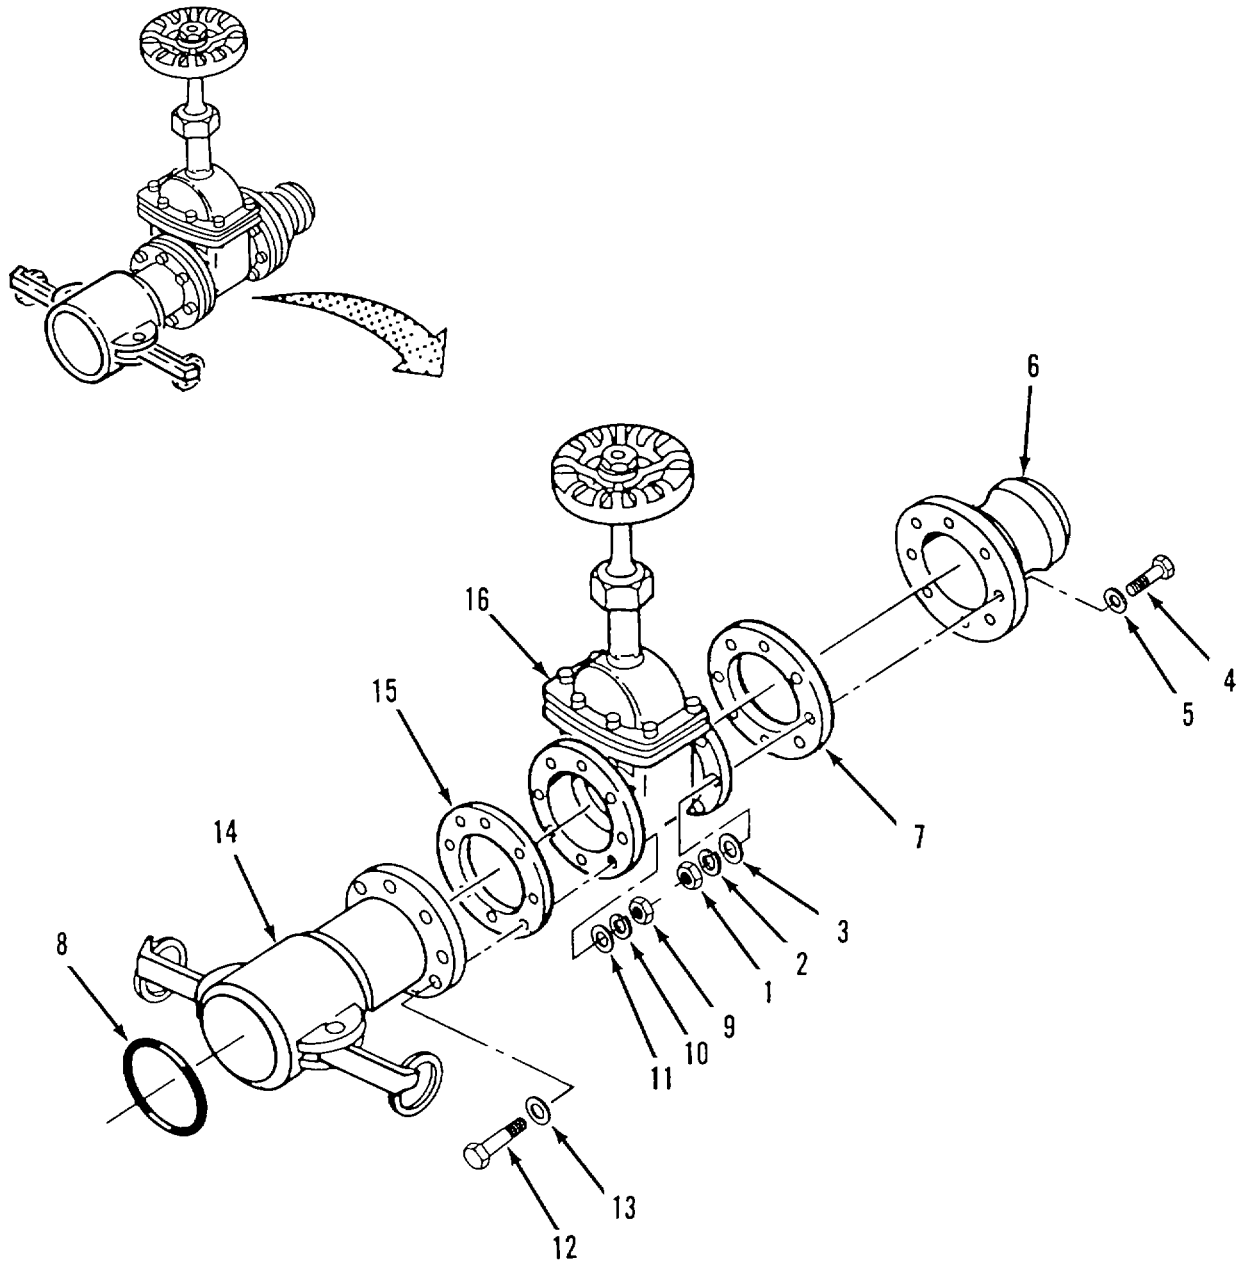

Figure 4-11. Gate Valve (4-inch) Disassembly
Remove gate valve Refer to figure 4-11
- (1) Inspect bonnet (11) and valve body (18) for cracks, scored mating surfaces, stripped threads and corrosion.
- (2) Inspect for bent stem (13) and galled or stripped threads.
- (3) Inspect sealing surfaces of discs (15 and 16) and valve body (18) for deep scratches and cracks.
- (4) Inspect male coupling (6, figure 4-11) for cracks and corrosion
- (5) Inspect female coupling (14) for cracks and broken locking arms
Install gate valve. Refer to figure 4-11.